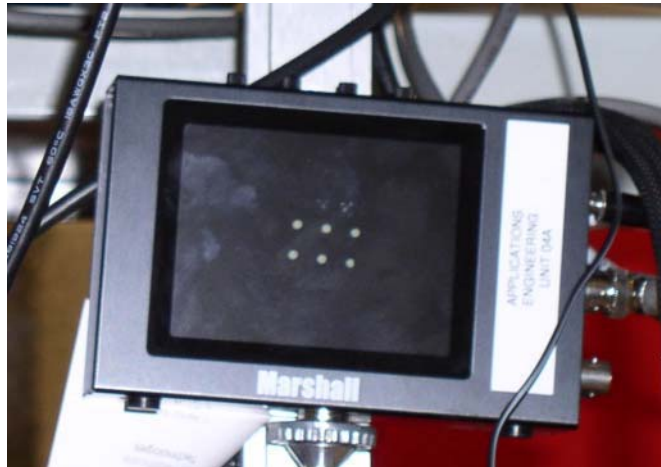

Figure B-3 CAMERA DOTS IN LCD FOV
- 5.) Place the Breathing Phantom and Marker Block (Dots) directly in front of the Varian camera approximately 5 feet (1.5m) and adjust its position to align the Marker Block (dots) so they appear in the center of the Camera LCD Field Of View (FOV). (Refer to Figure B-3).